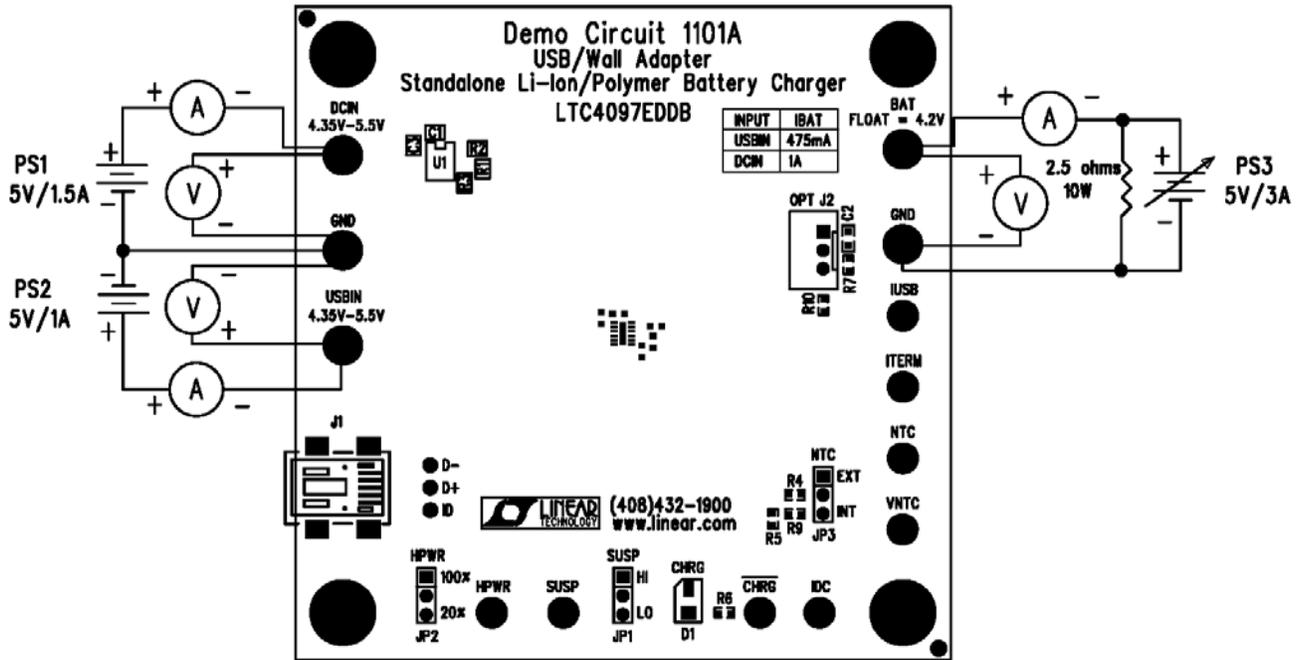

Figure 1. Proper Measurement Equipment Setup
Demonstration circuit 1101 is easy to set up to evaluate the performance of the LTC4097. Refer to Figure 1 for proper measurement equipment setup and follow the procedure below:
2. With the power supplies adjusted to 0V, connect the USBIN, DCIN, and battery simulator with series ammeters as illustrated in Figure 1. An ammeter or a 50m Ω current sense resistor may be used to measure the battery charge current.
3. Connect voltmeters, as shown in Figure 1, across USBIN and GND, across DCIN and GND, and across BAT and GND. These voltmeters may also be used to